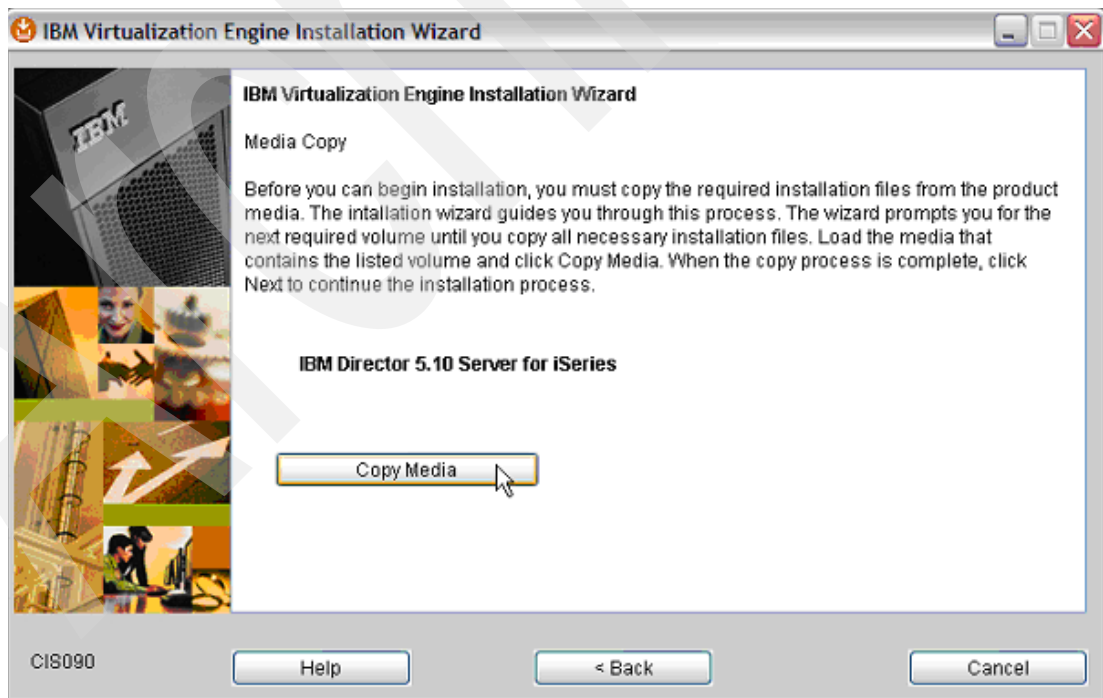

Figure 5-17 Media Copy window
12. Another Media Copy window (Figure 5-17) opens to load the Next Volume. Follow the instructions and insert the specified CD-ROM on your Windows workstation to copy the required IBM Director 5.10 installation files to the temporary directory.